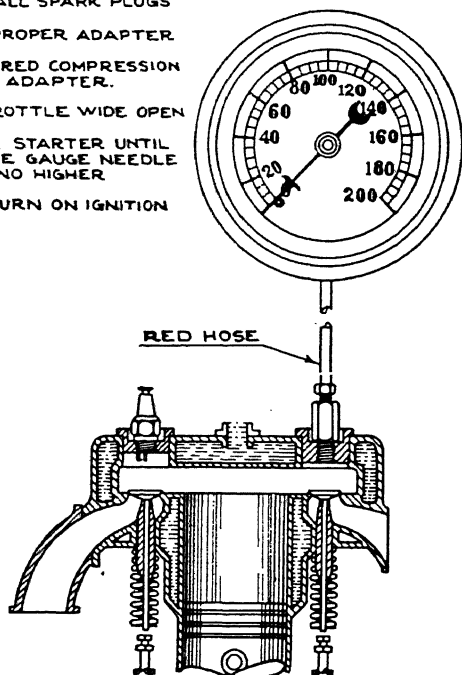

Fig. 13. Compression Test Equipment
**Compression Test.** This test should be made with the engine at normal operating temperature as the parts are then expanded to normal working condition. The compression test is made with all spark plugs removed and with wide-open throttle. On twin ignition such as Nash or Stutz, remove plugs on one side of engine only. Insert the proper adapter in cylinder, tighten moderately with a wrench (not too tight). Attach red compression hose, Fig. 13, to adapter in cylinder, hand tight. Do not use a wrench.
If the vacuum (see Fig. 13) shows 28 to 30 points without fluctuating, it shows that the compression is high and even. If the vacuum is low—25 to 27 and uneven, the compression is low and uneven. A complete test should be made to determine the cause for low compression, namely—carburetor adjustment, burned valves, improper tappet adjustment, worn rings and cylinder walls, before any promise is made to better the performance of the engine.